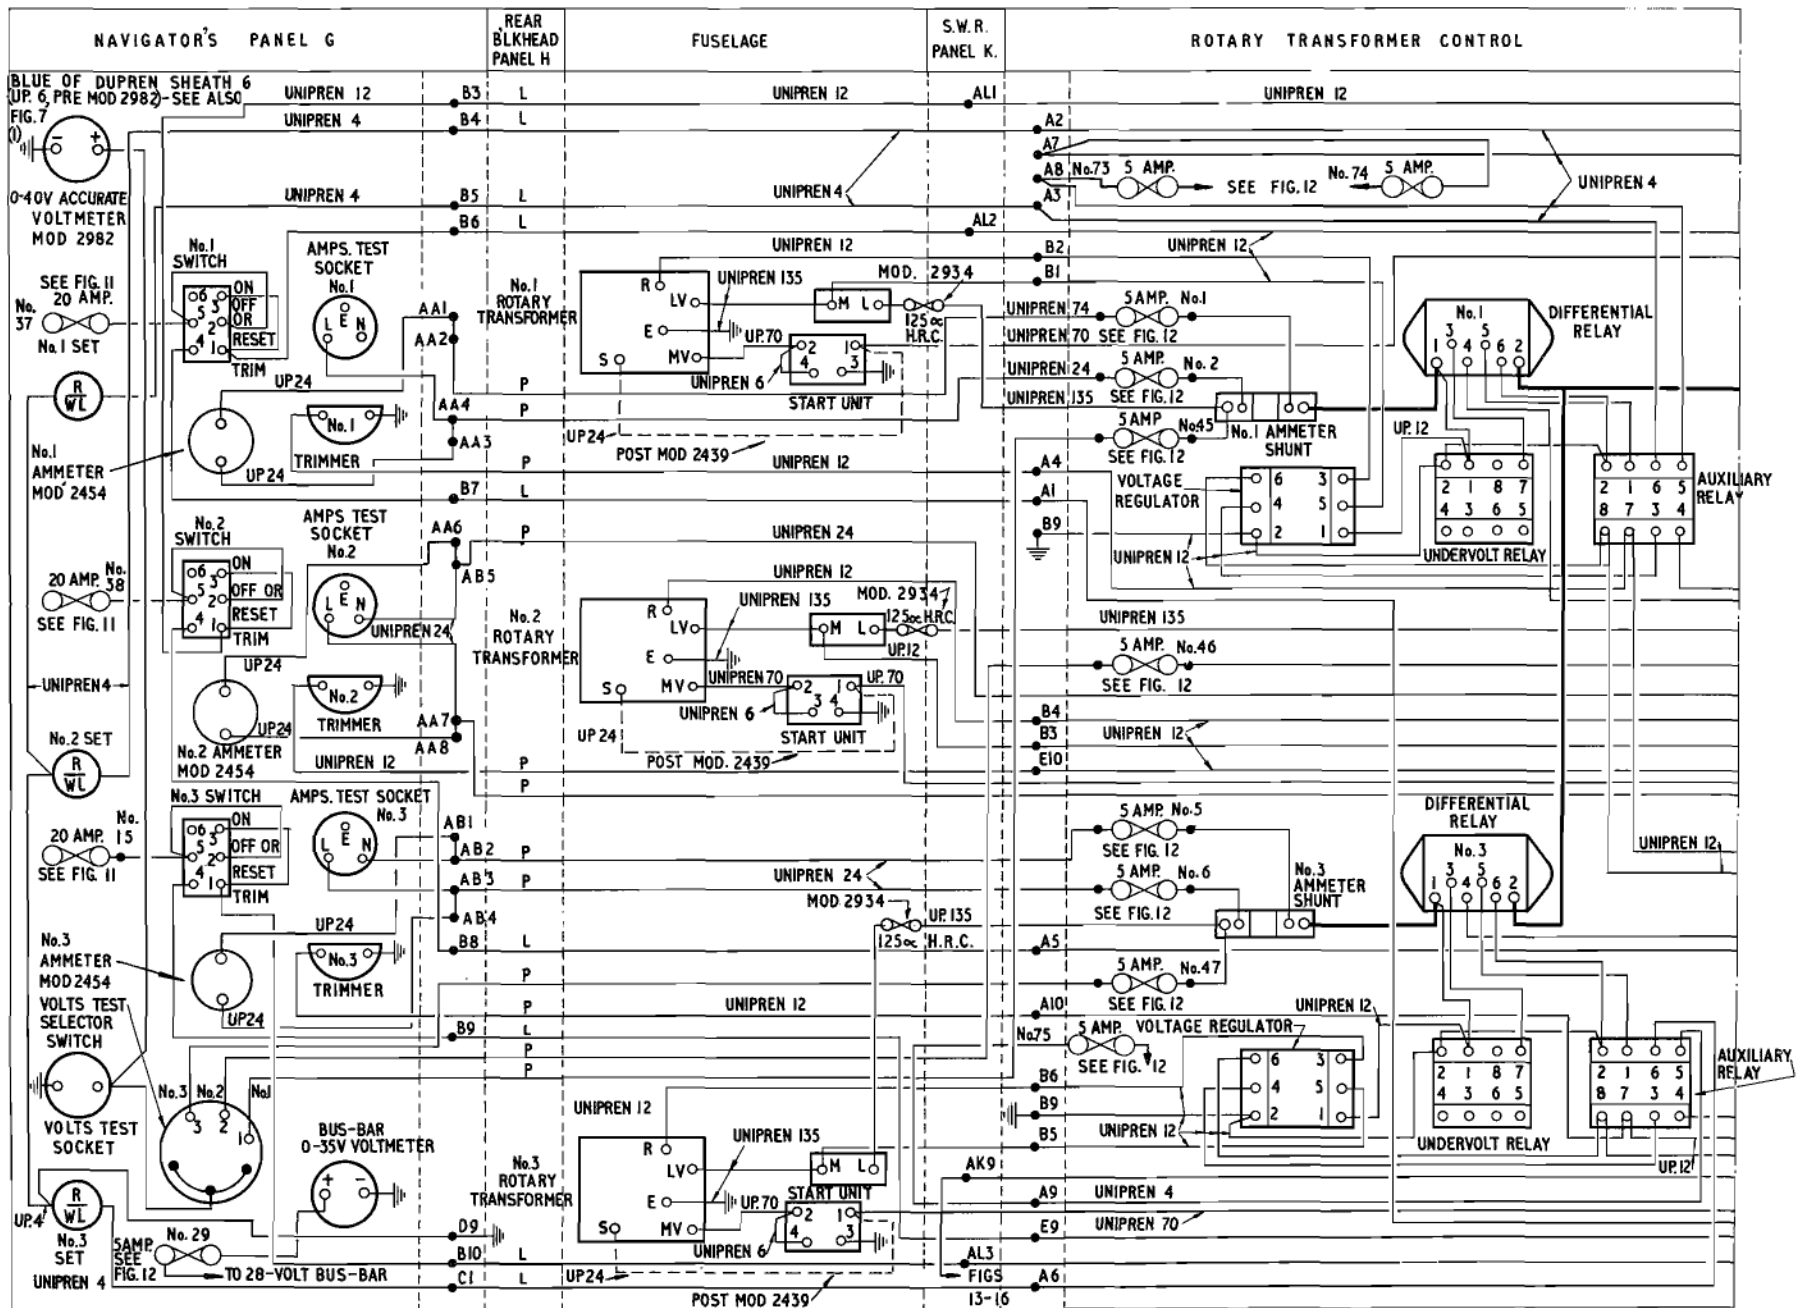

Fig. 7. (I) 28 Volt Rotary transformers (post Mod 2240)
1. Under Mod. 3069 the earth connections shown in Fig. 7 in the basic Group are revised as shown in Fig. 1.